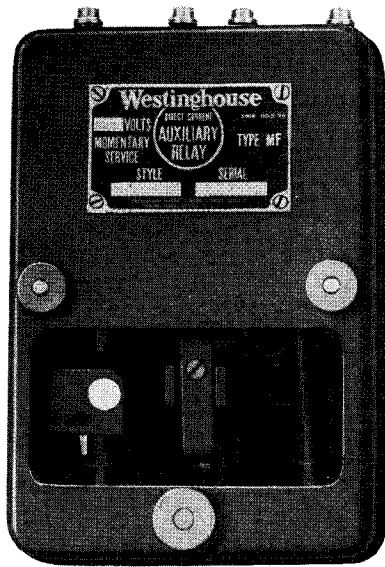

Fig. 24—Westinghouse Type MF Flash Relay
**The construction** of the MF relay is similar to the standard MC relay. It has one back and two front contacts. Due to lack of space, terminals are provided for only one front and one back contact. A special high-current coil with special terminal is used and operation indicator is added in the front contact circuit. In addition to this a different cover is used having a glass window in its lower part so located that the operation indicator may be plainly seen. Figures 24 and 25